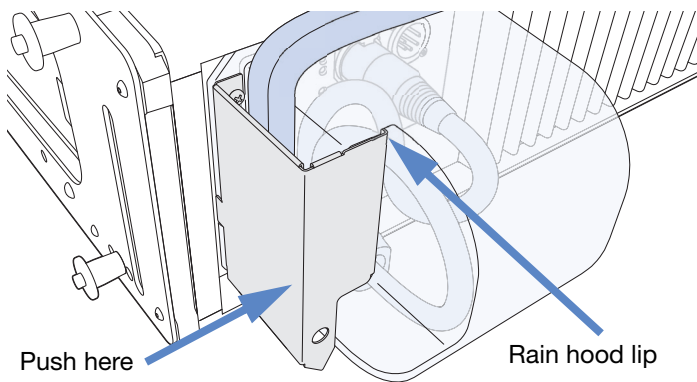

Figure 4: Pushing Shield Toward Rain Hood
8. Push the shield toward the rain hood until its edge clicks into place over the rain hood lip (Figure 4).